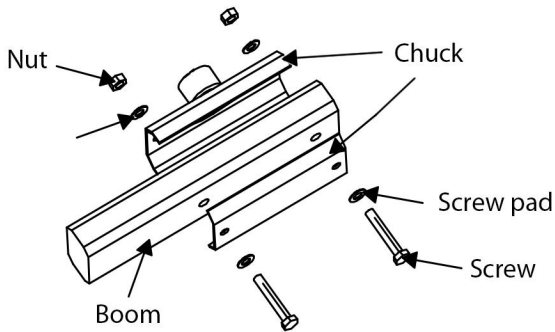

Figure 2 Installing the Boom to the Chassis
- 2) Installing the boom to the chassis, as shown in Figure 2.